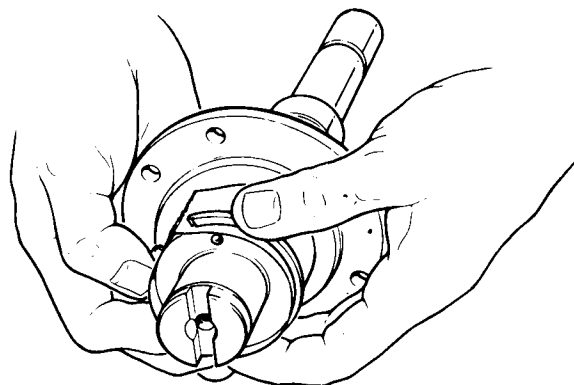

Fig. 14 Piston ring fitting procedure
1. Press the bearing outer cup firmly into position and measure between the face of the gearcase and the top of the bearing outer as shown in Fig. 14.